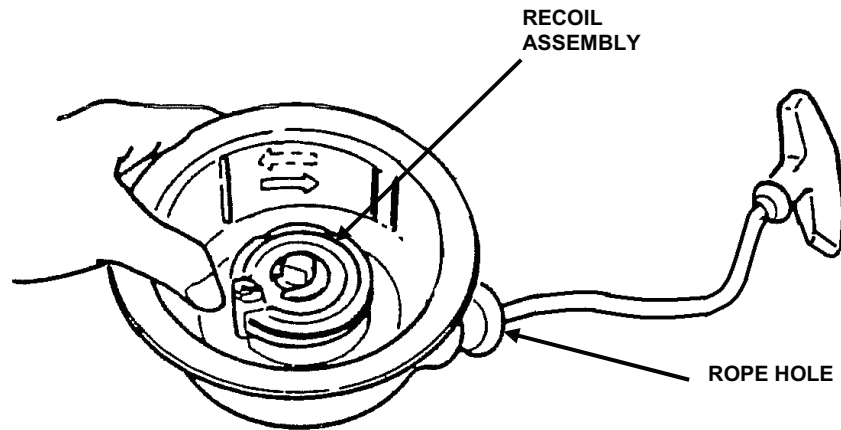

Figure 2. Starter Rope Installation.
3. Hold the recoil assembly from rotating. Figure 2.